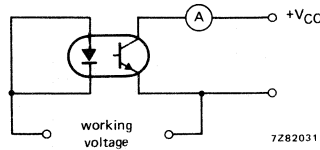

Fig. 2.
1. This parameter is the maximum collector-emitter leakage current measured when a high voltage is applied between the emitter and the two shorted diode leads (see Fig. 2).